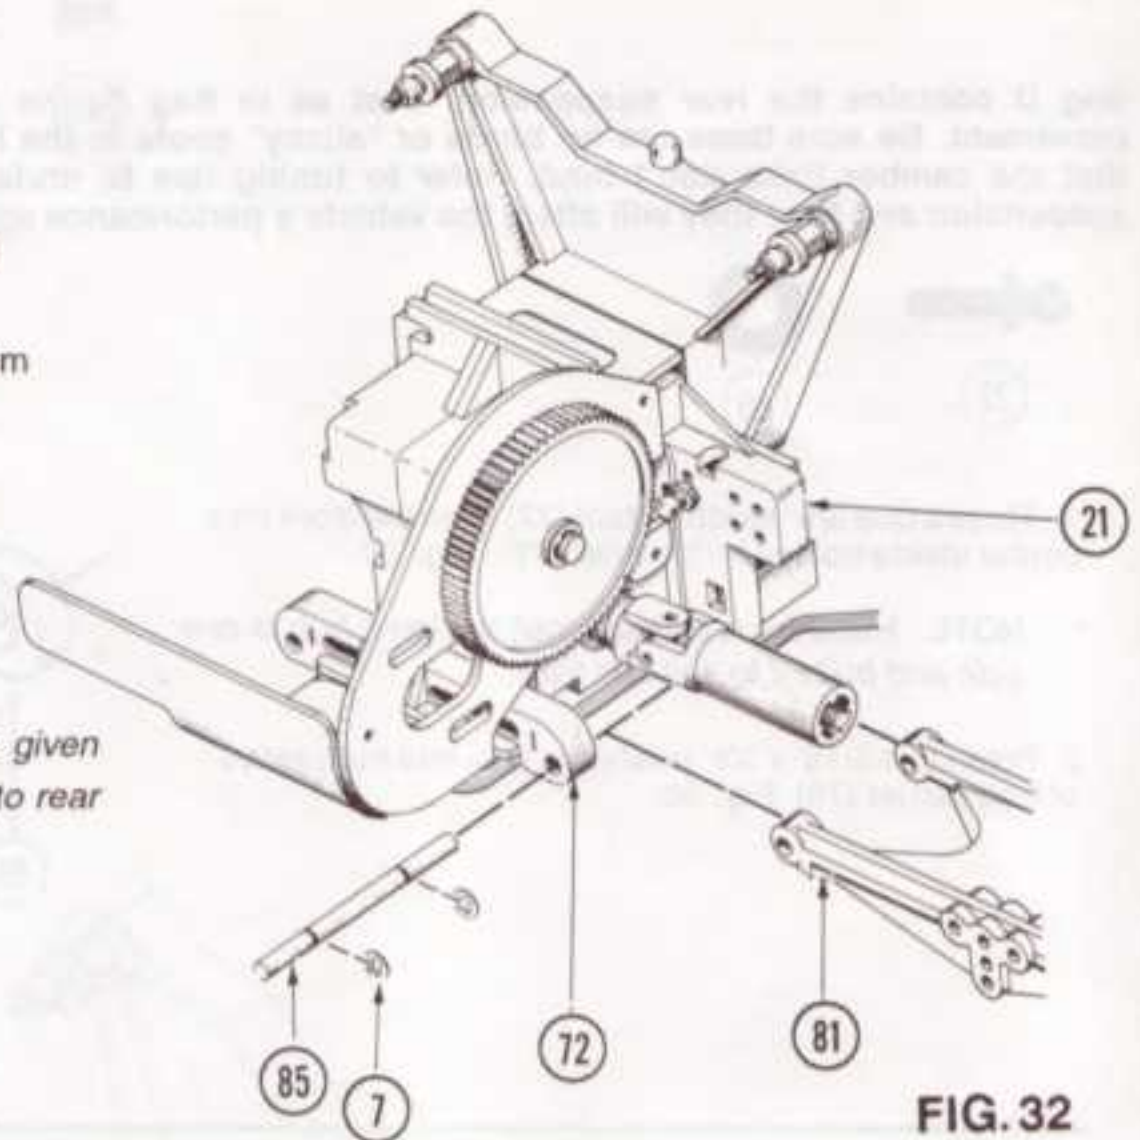

FIG. 32
7. Align free end of H-arm (81) (82) between rear pivot support (72) and rear bulkhead (21). Fig. 32.
* NOTE: Be sure the arrow on the bottom of the H-arm (81) (82) points to the front.
8. Insert 1/8" x 1.785 hinge pin (85) through rear pivot support (72) H-arm (81) (82) and into rear bulkhead (21). Fig. 32.
9. Secure H-arm (81) (82) with two 1/8" E-clips (7) in grooves in 1/8" x 1.785 hinge pin (85). Fig. 32.
* NOTE: It's easiest if one groove in pin (85) is given excess room to put on 1/8" E-clip (7), then push it into rear bulkhead (21) and snap in second 1/8" E-clip (7).